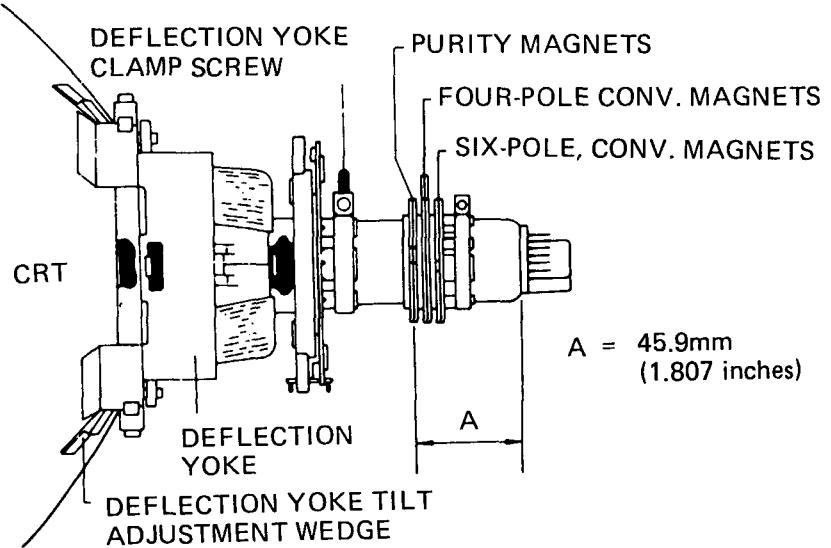

Figure 13. Picture Tube Neck Components Location
1. Check for the correct location of all neck components. Refer to Figure 13.